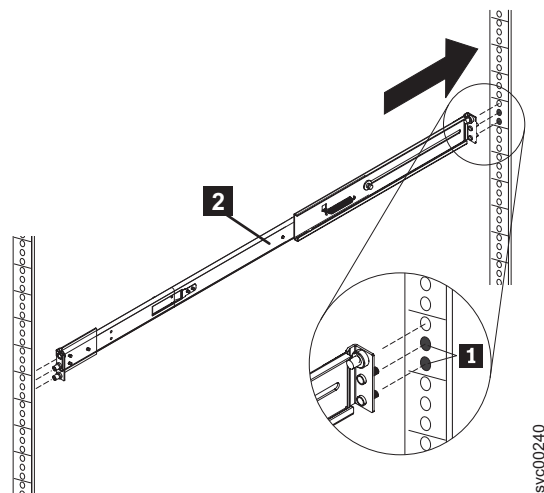

Figure 78. Inserting the right slide rail into the rear rack mounting flange
3. Insert the right slide rail **2** into the rear rack mounting flange, as shown in Figure 78, with the rail pins **1** protruding through the flange.